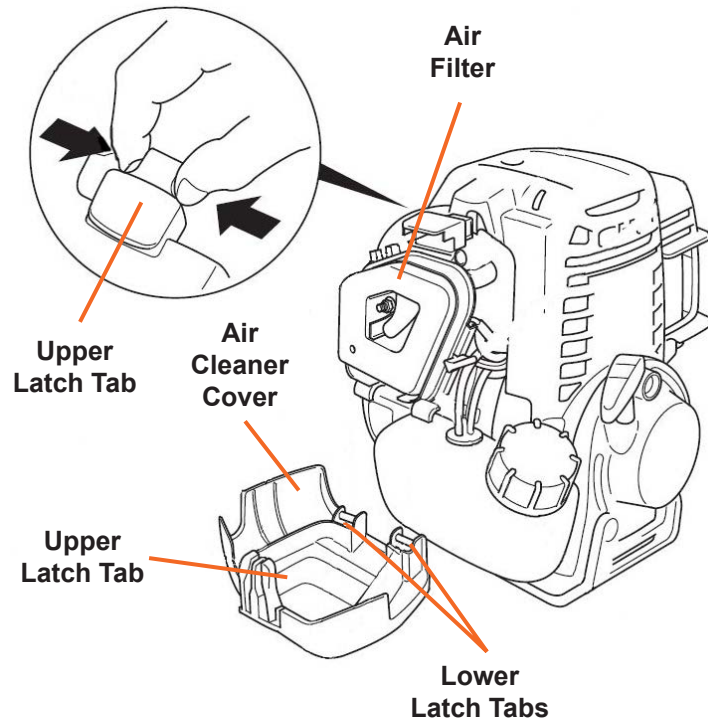

Figure 7
1. Press the latch tab on the top of the air cleaner cover and remove the cover (see Figure 7).